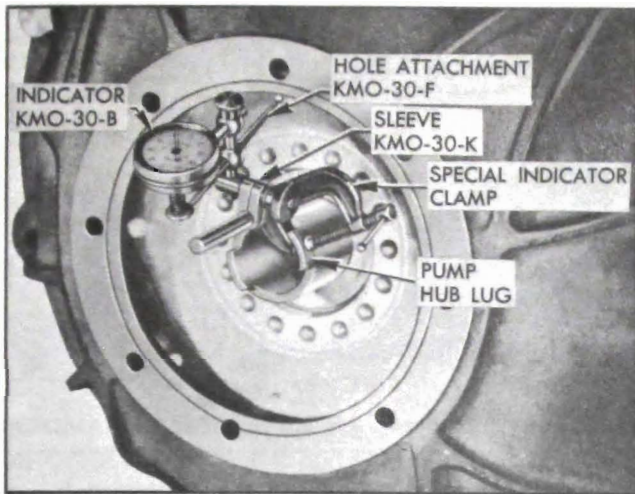

Figure 5-60—Checking Run-Out of Bell Housing Pilot Hole
8. Mount dial indicator and Hole Attachment KMO-30-F to bear against inner edge of pilot hole in bell housing. See figure 5-60. Run-out of pilot hole should not exceed .004".
10. Set up dial indicator as shown in figure 5-60 and bring pilot hole of bell housing within .004" run-out by tapping in required direction with lead hammer. If it is not possible to move housing far enough, remove housing and drill bolt holes with 1/2" drill. When bell housing is placed so that pilot hole run-out is .004" or less, tighten all bolts securely.